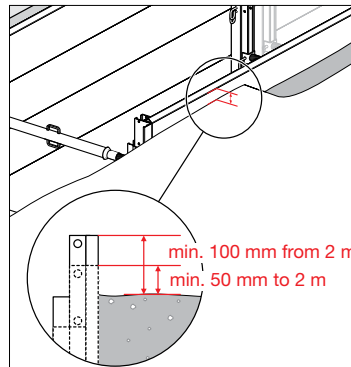

Fig. 5
- The trench shoring must extend min. 50 mm above the top edge of the trench on both sides (Fig. 5).